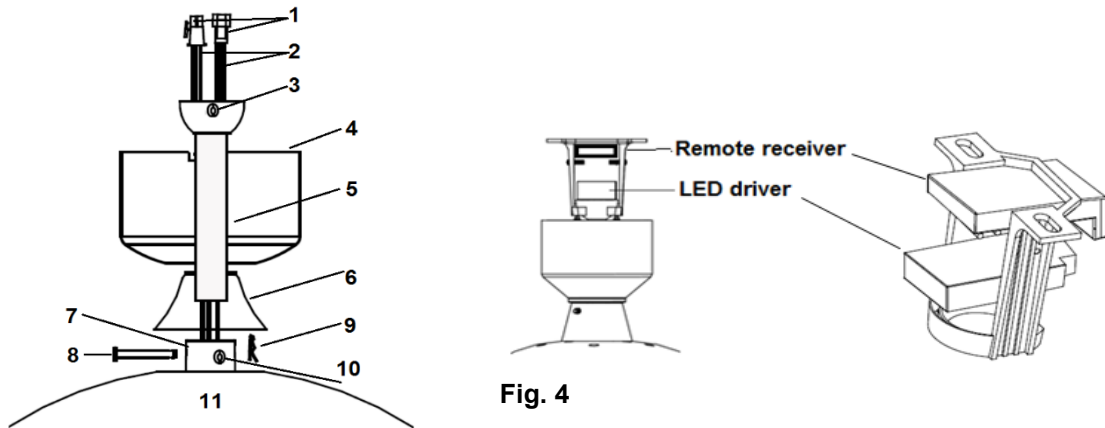

Fig. 4
- 1) Feed the down rod (5) through the canopy (4) and the bolt and pin cover (6).
- 2) Remove the ball joint by loosening the set screw (3), insert the motor wires through the down rod then secure the ball joint back to the down rod.
- 3) Insert the down rod to the coupling (7), line up the coupling holes with the down rod holes and insert the bolt (8). Then insert the pin (9) to the end of the bolt.
- 4) Finally secure the down rod and coupling by tightening the two set screws (10) on the coupling. Fig. 4
2. Carefully lift the fan and place the down rod ball assembly into the spacing allocated in the mounting bracket and lock the ball into place. Insert the LED driver into the lower layer of the mounting bracket then insert the remote receiver into the top layer of the mounting bracket. Fig.4